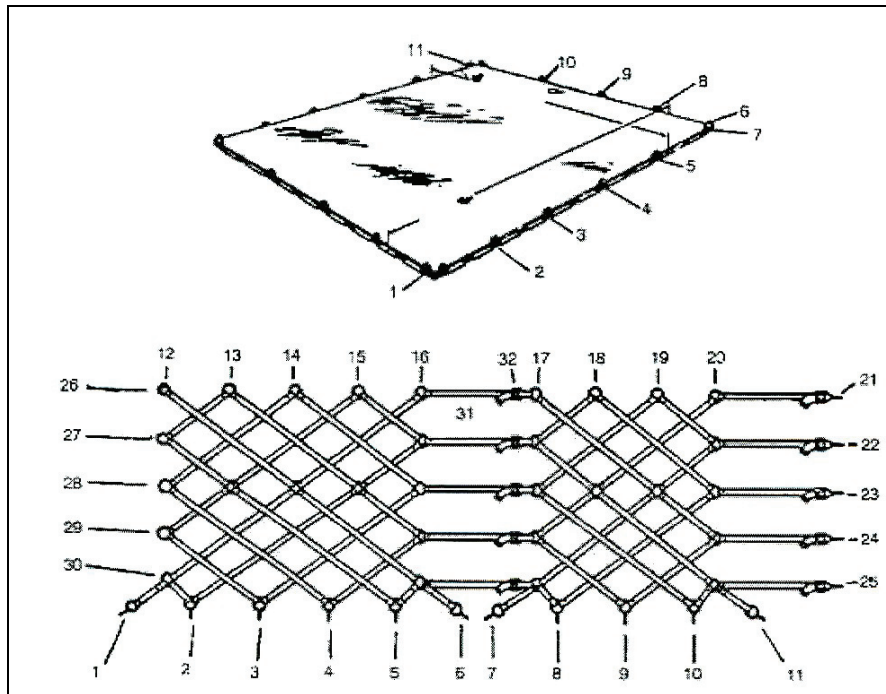

Figure 3-19. Attaching Hook #1 to Ring #1 on the Pallet
- i. Begin with the left ring-side of the 463L pallet and work from left to right. Attach hook #1 on the side of the net to ring #1 on the pallet (see Figure 3-19).